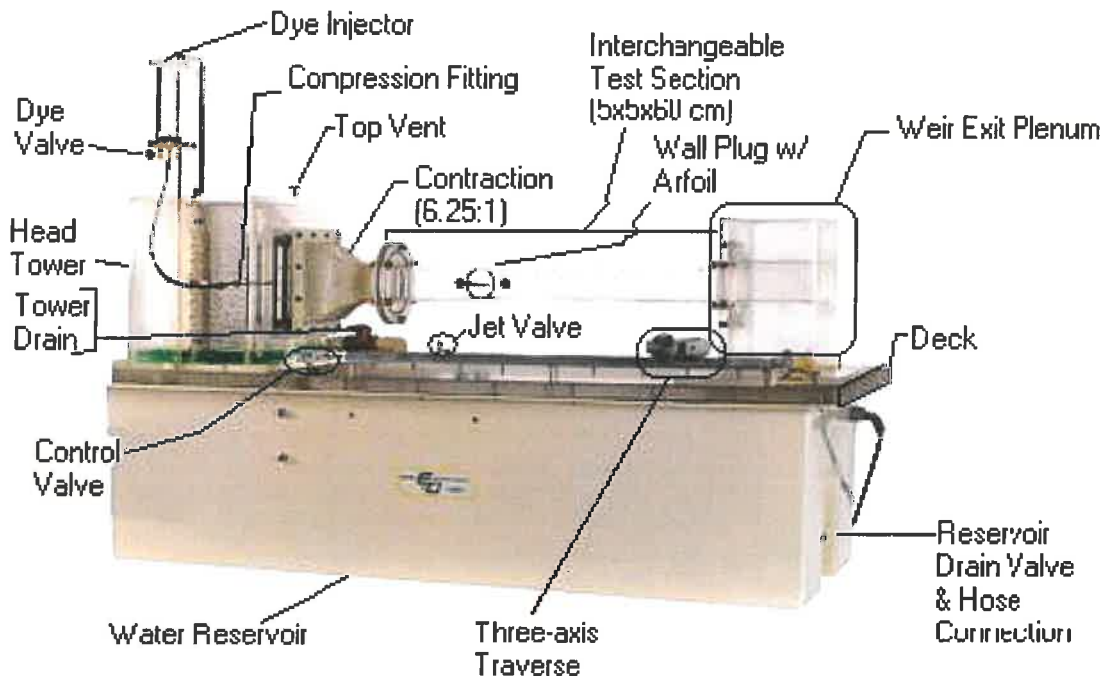

Figure 11 ELD closed loop water tunnel.
- ELD 12" Open Circuit Wind Tunnel, Figure 11.